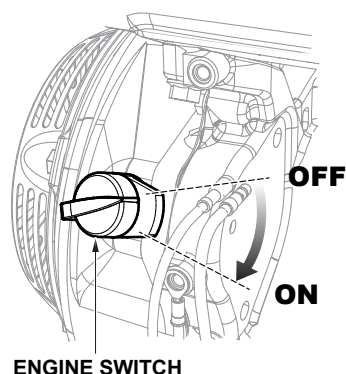

Figure 12. Engine ON/OFF Switch (ON Position)
5. Place the engine **ON/OFF** switch (See Figure 12) in the **ON** position.